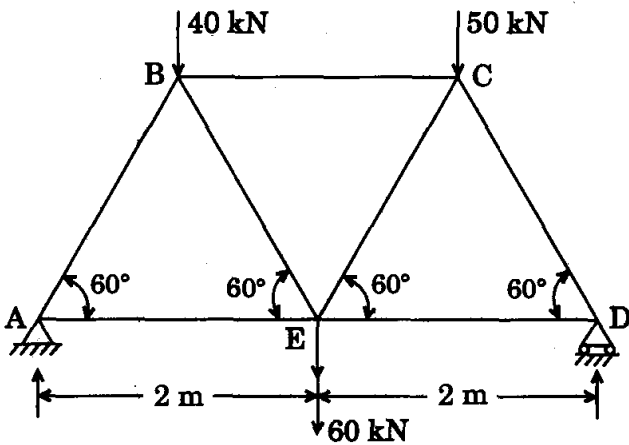

Figure 10
- (b) Determine the forces in all the members of the truss shown in Figure 10 and indicate the magnitude and nature of forces on the diagram of the truss. All inclined members are at 60° to horizontal and the length of each member is 2 m. 7